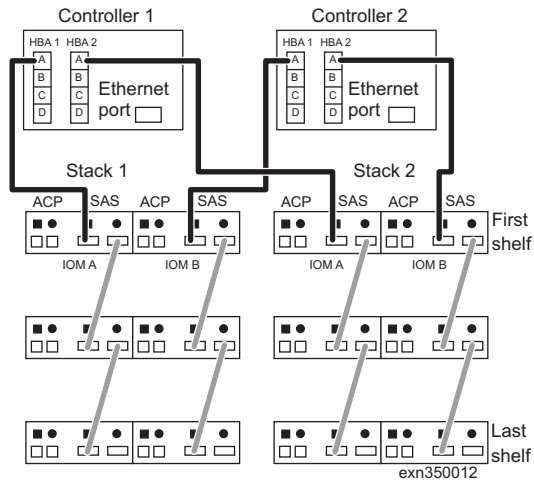

Figure 13. Cable the first SAS shelf connections
2. Cable the first SAS shelf connections, as shown in Figure 13.